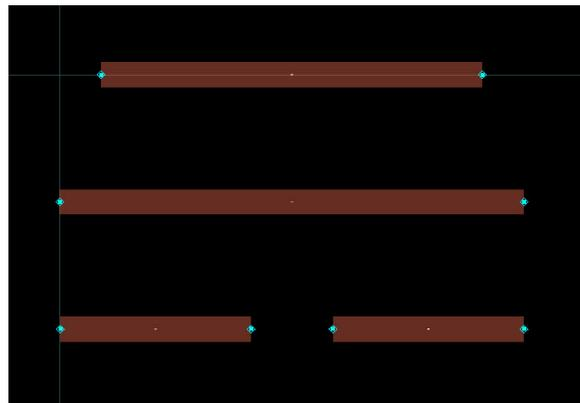

Figure 4: Board Layout for TRL
- Generate the board layout by clicking “Layout → Generate/Update Layout...”. Now your layout should look like Figure 4.